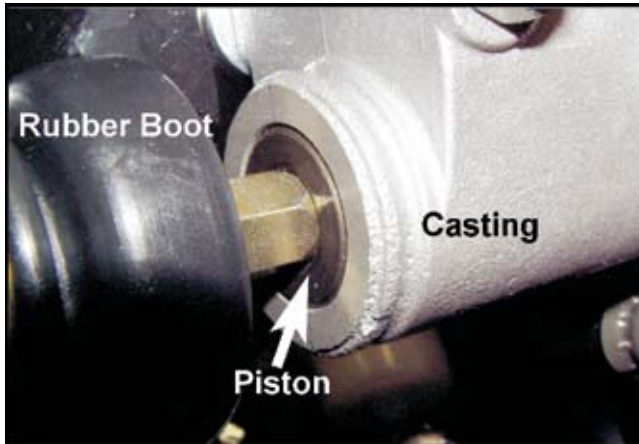

Figure 7-24. Location of piston.
2. Pull back the rubber boot at both master cylinder plunger pins and check each piston location relative to the face of the master cylinder casting as illustrated in Figure 7-24. Use a straight edge against the face of the casting to ensure